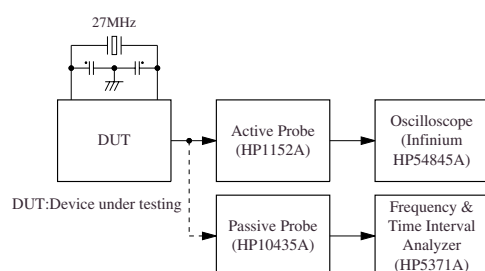

Figure 1. Measurement circuit 1
2. The numeric values are measured values obtained using the circuit in Figure 1 and the NPC standard evaluation board.